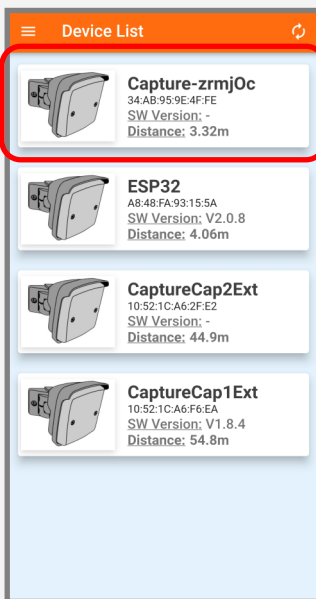

Fig 1
- 1) After opening the app, select your device from the list. Fig 1
Select the day you want to configure and press **both** buttons to start the configuration (confirmation tone). *Fig. 1*
20:30 *Fig. 1*